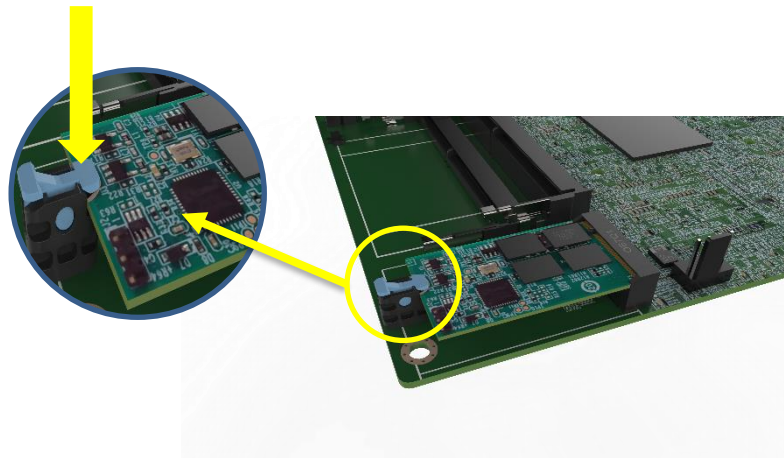

Figure 4-4: Aligning the M.2 Module with the Retainer
Step 3: Align the notch on the end of the M.2 module with the clip of the retainer. (See **Figure 4-4**)